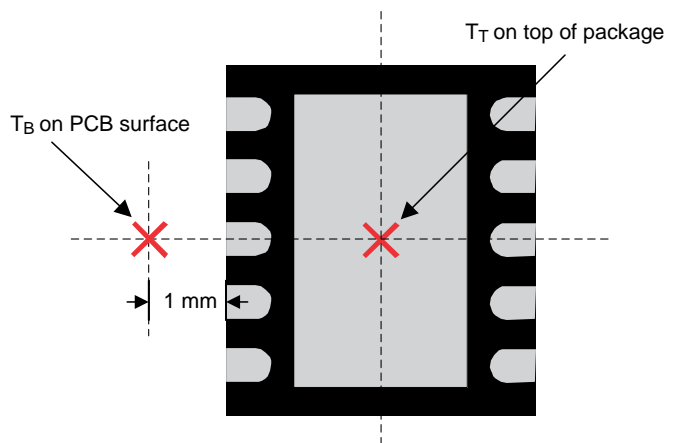

Figure 36. Package Thermal Measurement
- $T_B$  is the PCB temperature measured 1-mm away from the thermal pad package on the PCB surface (see Figure 36).
- (9)